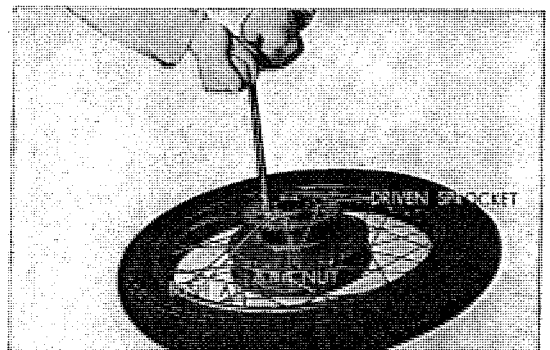

Fig. 4.91 Tightening the final driven sprocket
3. After the oil seal is installed, the sprocket retaining bolt should be inserted into the drive flange and the final driven sprocket tightened by the 8 mm tongued washer and 8 mm thin nut. (Refer to Fig. 4.91)